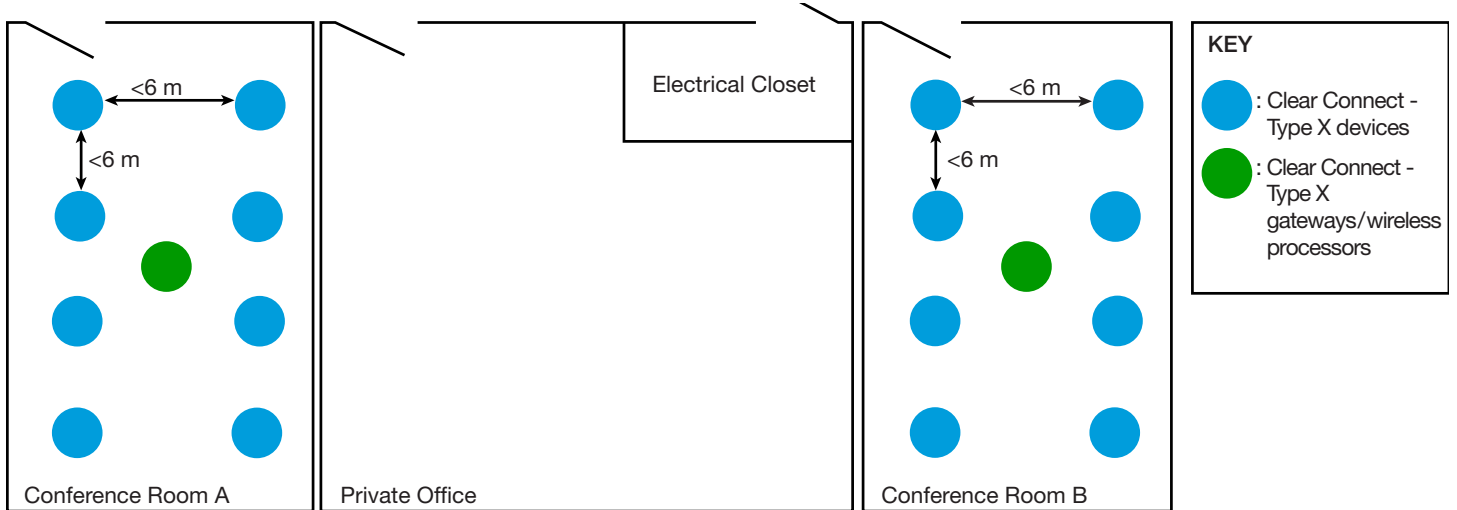

Figure 5 - Solution 1 Where two Type X subnets are formed.
- Solution 1 (refer to Figure 5):** Add two gateways/wireless processors and create two Type X subnets. One subnet per group of devices in each conference room.